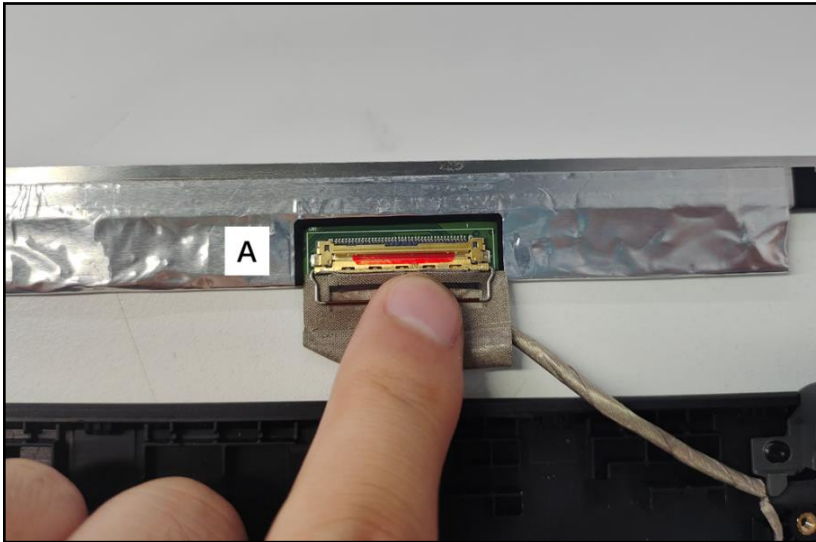

Figure 3-76. Replacing the LCD Panel
1. Connect the EDP cable to the LCD panel connector (A) (Figure 3-76).